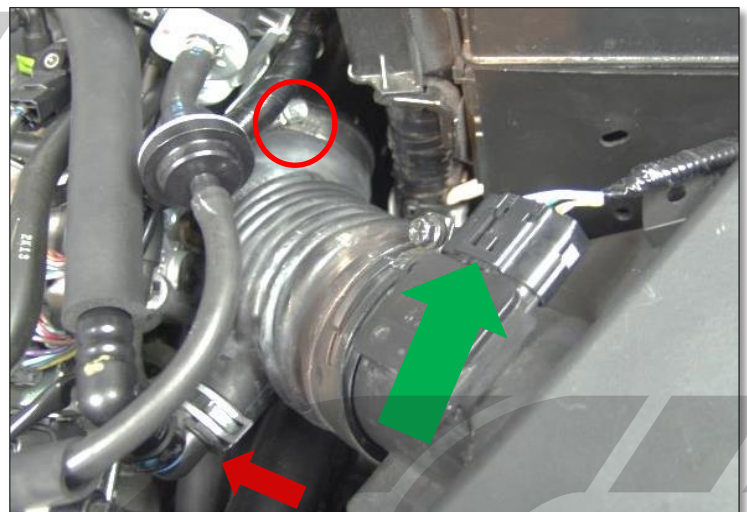

Figure 1e
f) Remove the intake. Loosen the hose clamp connecting the intake elbow to the turbo inlet pipe with a 10mm socket wrench (red circle in Figure 1e).
g) Remove the breather pipe from the valve cover (red arrow in Figure 1e) and unplug the MAF sensor (green arrow in Figure 1e).